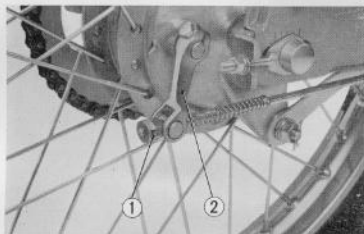

Fig. 4.62 Removing rear brake rod from rear brake arm
- (1) Remove the brake pedal spring and the stop light spring from the brake pedal.
- (2) Remove the brake adjusting nut ① and remove the rear brake rod from the rear brake arm ②. (Fig. 4.62)